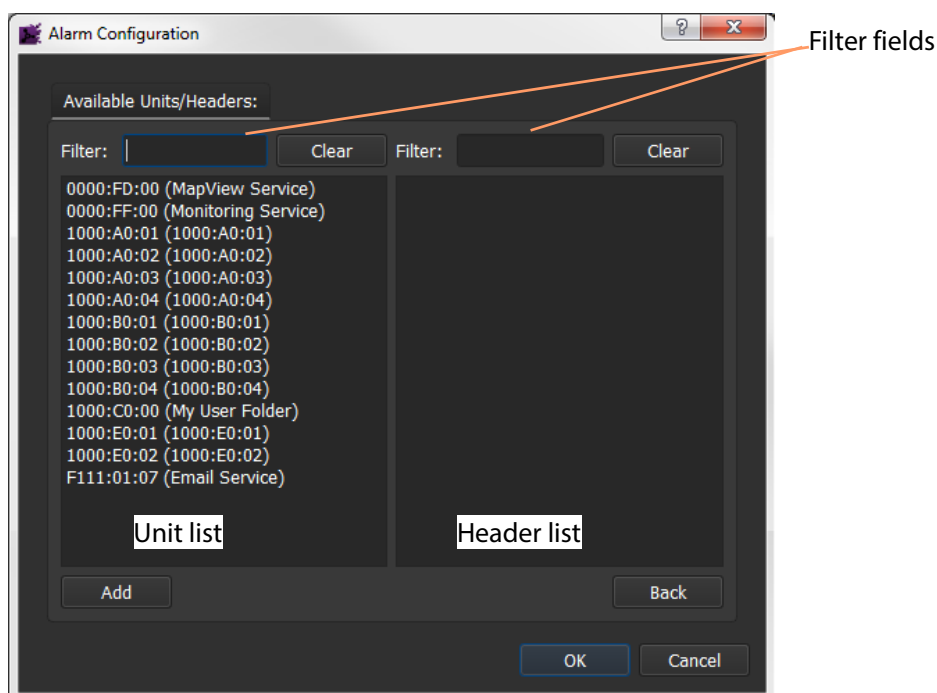

Fig. 6-5: Alarm Configuration Dialog - 'Select...'
- 3 Click **Select...** and all accessible units are listed. See Figure 6-5.